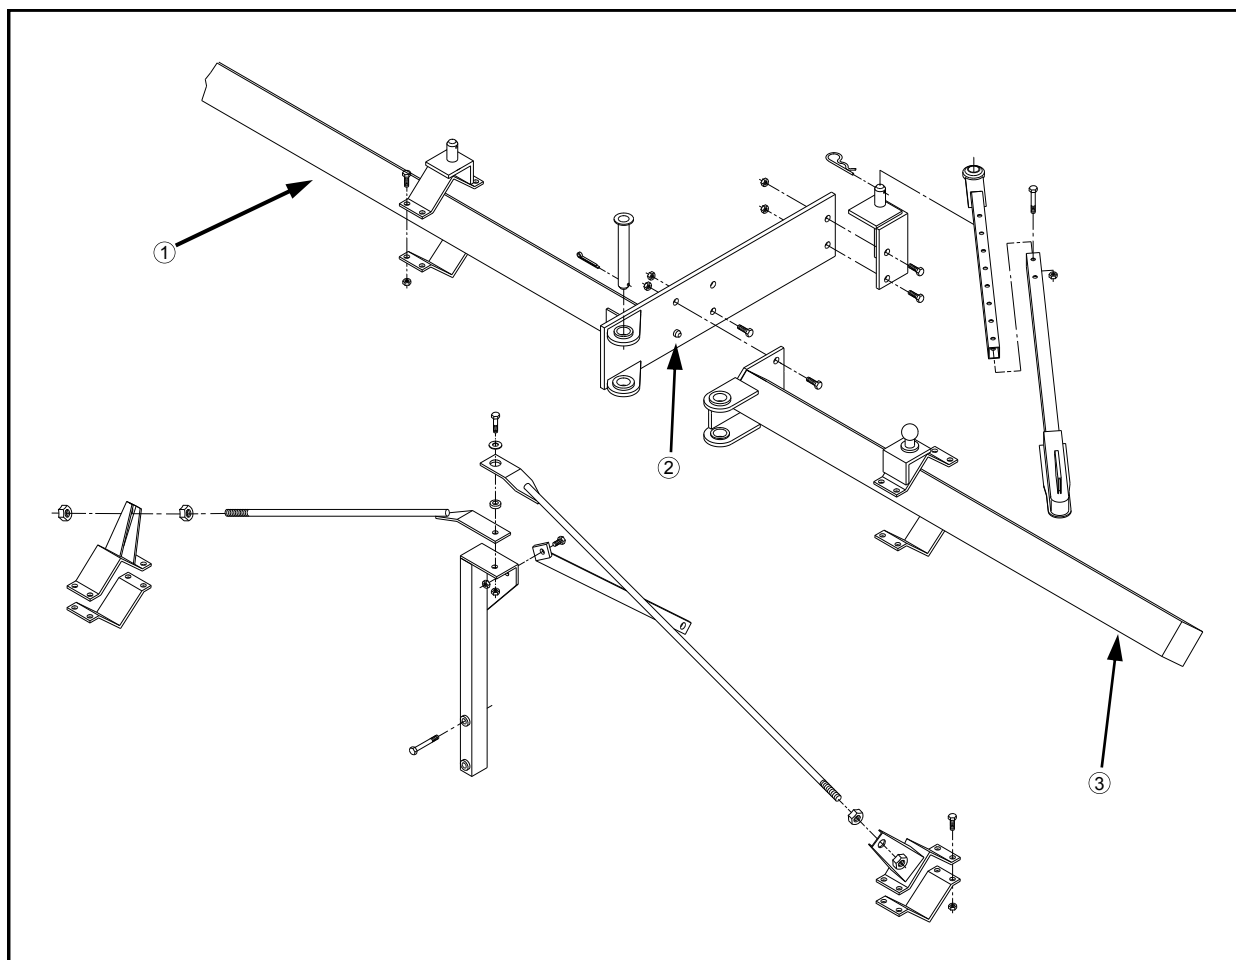

FIG 4.11
1. Attach the center tool bar (fig. 4.11, item 1) to front frame cross member with supplied hardware according to 204 DETASSELER Parts Manual for correct hardware.
The guide pin that is welded to outrigger mount should be located toward the bottom (fig. 4.11, item 2).
2. Attach left and right outrigger (fig. 4.11, item 3) with supplied hardware. Refer to 204 DETASSELER OPTION Parts Manual.